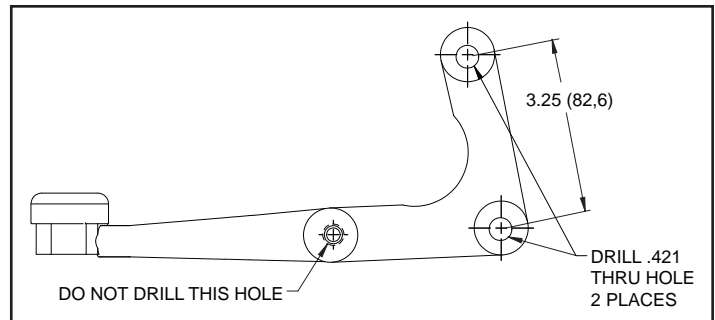

Figure 3. Steering Arm Modification
- To enable installation of the Wilwood caliper bracket, two holes on the steering arm need to be drilled out to .421" diameter, Figure 3